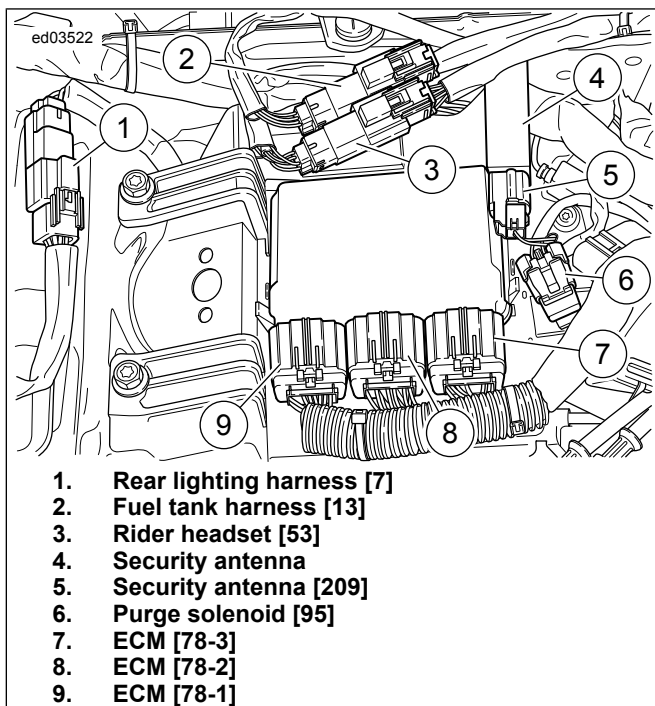

Figure 2. Under Seat: FLHT
2. Locate the six-way rear lighting harness connector [7] in the area under the seat. See Figure 2. Disconnect the rear lighting harness from the main harness.